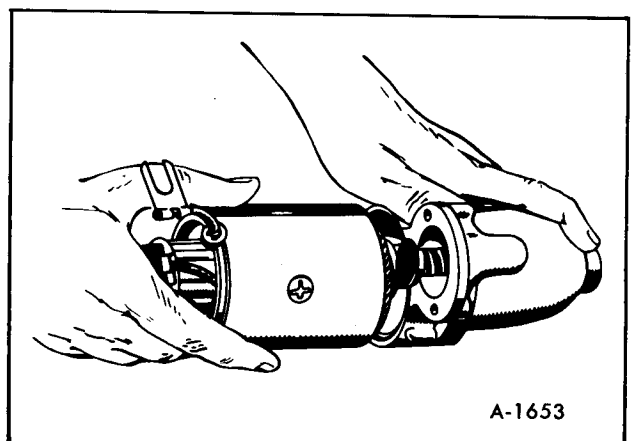

Figure 74—Yoke to Front Bracket Installation
6. Position the Yoke to the front bracket. Be sure that the yoke is properly indexed to the front bracket (figure 74).